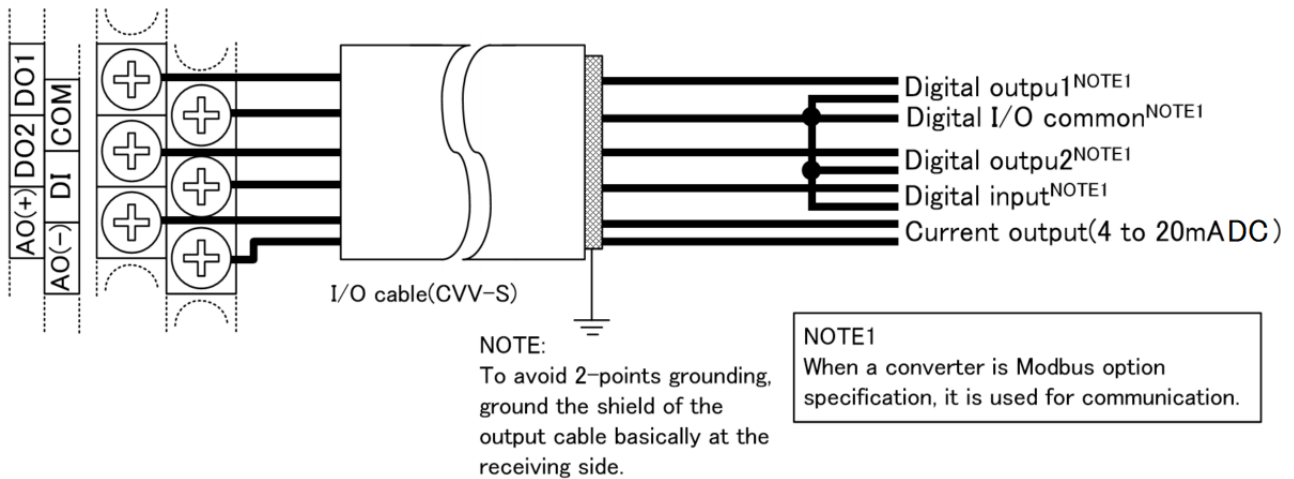

Figure 5.2.1.2 Input and Output Cables Wiring of the LF620*B Integral Type Converter
* Use a heavy copper braid or wire (cross-sectional area **5.5 mm² minimum**) to ground the terminal and make it **as short as possible** as shown in Figures 5.2.1.1 and 5.2.1.2 for **grounding**. Also, **Avoid a common ground** where earth current may flow. (An **independent ground** is preferable.)